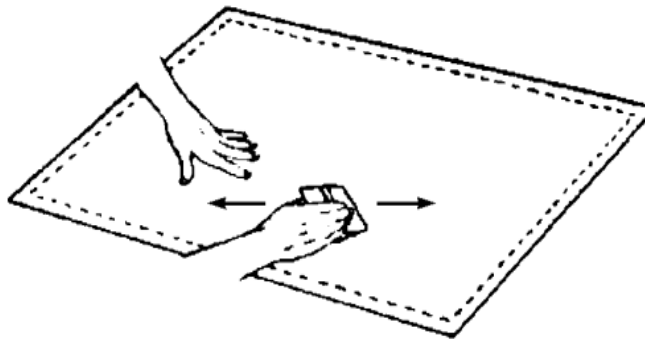

Figure 4. Squeegee the Graphic and Application Tape
- Squeegee the graphic from the liner side to adhere the application tape. Work from the center out. See Figure 4.